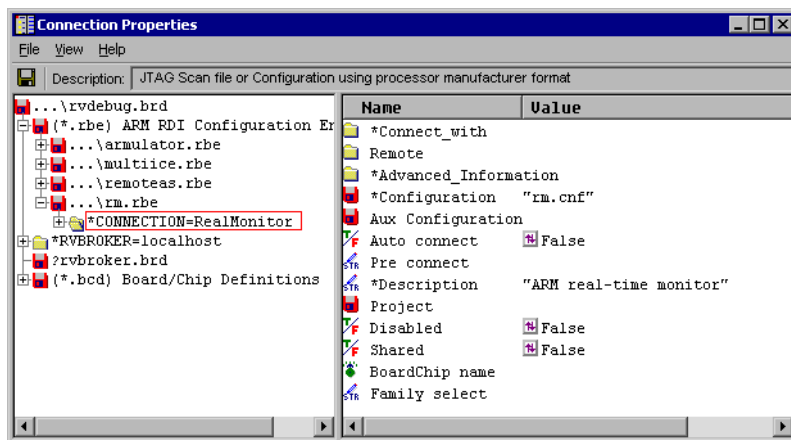

Figure 3-21 RealMonitor connection properties
2. Right-click on the RealMonitor entry to display the Connection Properties window, shown in Figure 3-21 on page 3-36.